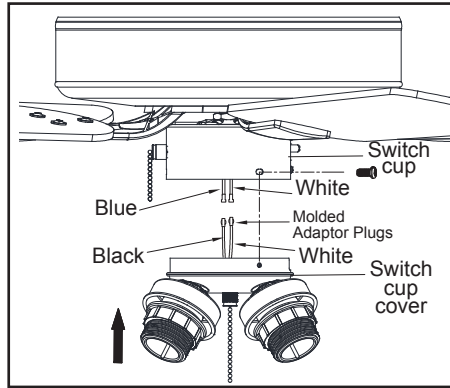

Figure 13
5. Insert the glass shade into the light kit assembly and turn the compressing ring clockwise to tighten and secure the glass shade. Repeat for the remaining shades. (Figure 13)